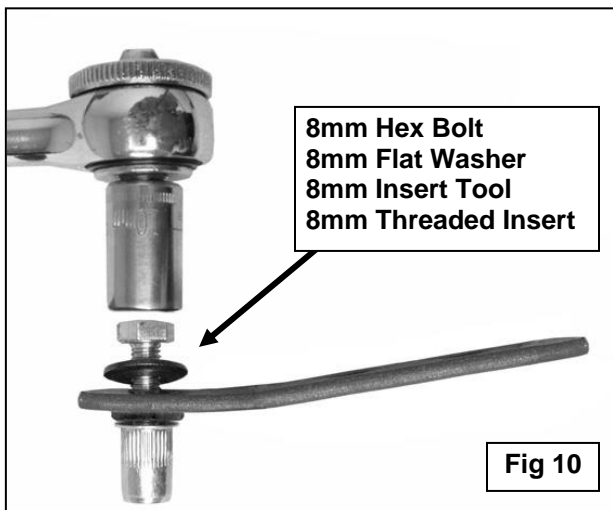

Fig 10
8. Select the 8mm Threaded Insert Tool, (1) 8mm Threaded Insert, (1) 8mm Flat Washer and (1) 8mm x 25mm Hex Bolt, **(Figure 10)**. Assemble the tool as pictured in **Figure 10**. Insert the assembly into the factory hole. Firmly hold the tool handle and assembly up tight against the floor panel and tighten the 8mm Hex Bolt until the insert is fully expanded in the hole, **(Figure 11)**. **NOTE:** Do not over tighten or a pull out may occur. Once Insert is fully compressed, remove the bolt and tool from the Insert.